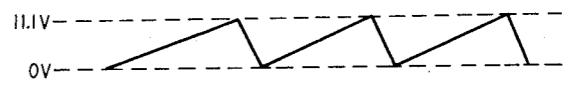

Fig. 18
Voltage level of the saw-tooth wave obtained at pin ⑦ of IC114 is as shown in Fig. 18.